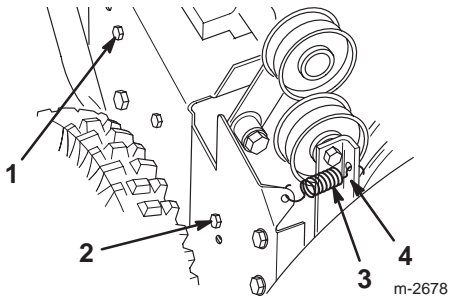

Figure 24
- Bolt (3)
- Loosen the auger brake arm assembly by loosening the rearmost screw and removing the front screw (Fig. 24).
- Remove the idler pulley spring (Fig. 24). Let the brake arm assembly hang free but out of the way.
4. Loosen the auger brake arm assembly by loosening the rearmost screw and removing the front screw that fasten the auger brake arm assembly to the frame (Fig. 24).
5. Remove the idler pulley spring (Fig. 24). Let the brake arm assembly to hang free but out of the way.